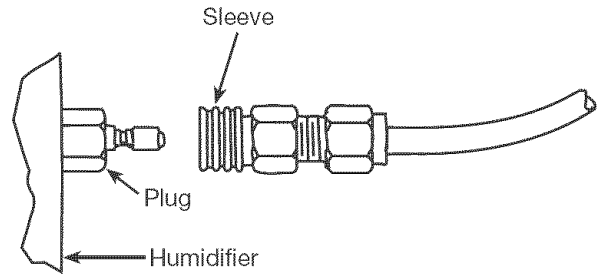

Fig. 24
12. Connect the quick disconnect socket to the plug on the valve body (Fig. 24).